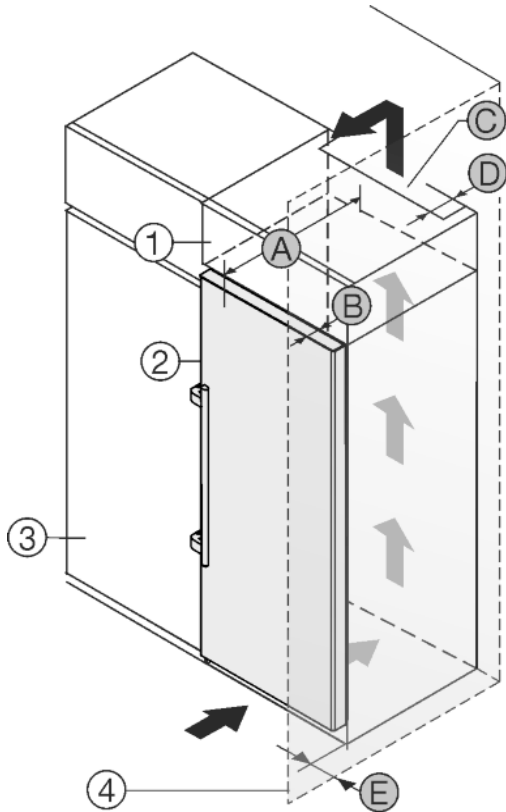

Fig. 21
The appliance can be built into kitchen units. A top cupboard Fig. 21 (2) can be added above the appliance in order to bring the appliance Fig. 21 (1) up to the height of the fitted kitchen units.
The appliance can be installed right next to the kitchen cabinet Fig. 21 (3). The appliance must protrude by depth Fig. 21 (B) from the front of the cabinet so that the doors can be opened fully. The appliance may protrude further depending on the depth of the kitchen cabinets and whether wall spacers are used.
- At the back of the top cabinet, there must be an air outlet shaft with depth Fig. 21 (D), spanning the entire width.
- The ventilation shaft Fig. 21 (C) must be observed under the ceiling.
If the appliance is installed with the hinges next to a wall Fig. 21 (4), the distance Fig. 21 (E) between the appliance and the wall must be observed. This is how far the handle protrudes when the door is open.